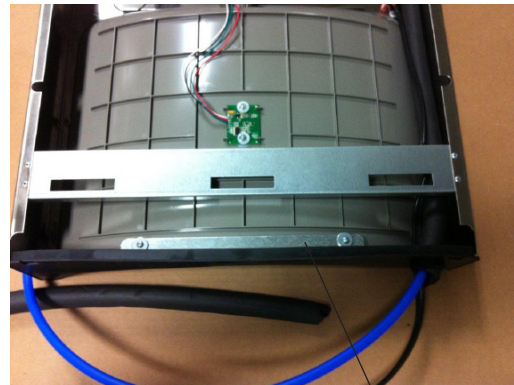

Fig. 10
- 6) Install gasket on bottom of bottle filler tower with gasket support bracket, (2) washers, & (2) screws (See Fig 10).